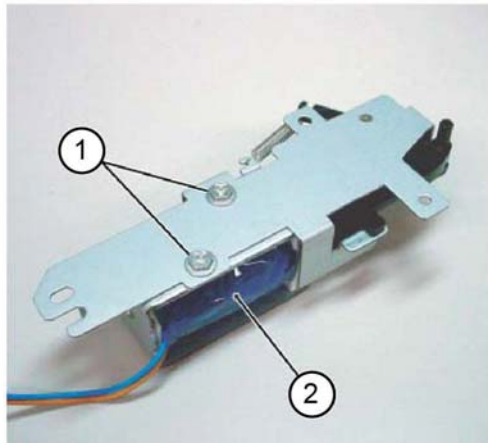

Figure 4 Sub paddle solenoid removal
9. Remove the sub paddle solenoid, Figure 4:
- a. Remove two screws (1).
- b. Remove the sub paddle solenoid (2).